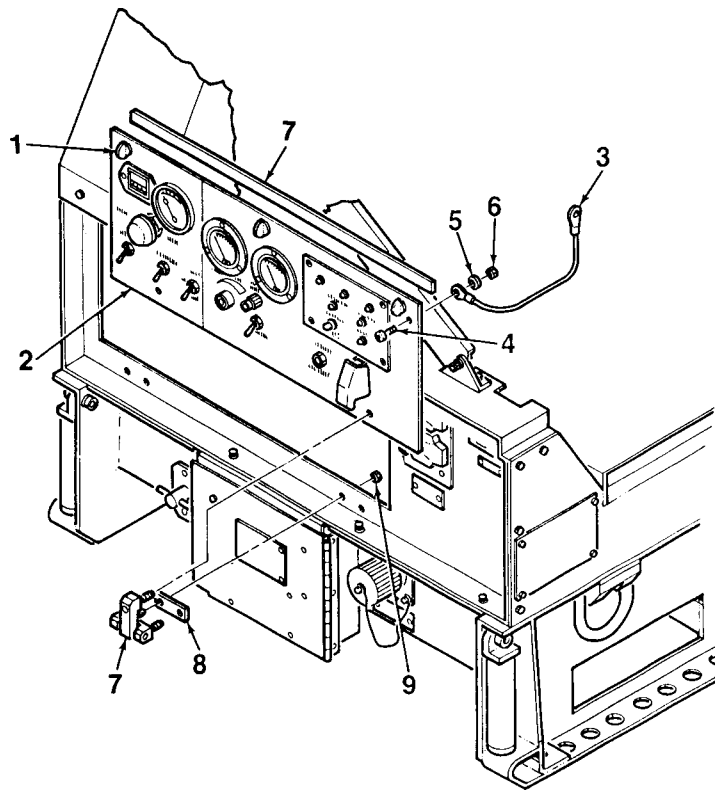

Figure 4-4. Control Panel Assembly
1. Turn quarter-turn fasteners (1, Figure 4-4) to unlock and open control panel (2).
3. Release cable lanyard (3) from control panel (1) by removing attaching screw (4), washer (5), and locknut (6).
4. Remove control panel hinges (7) and hinge spacers (8) from control box by removing four nuts (9).
5. Remove hinges from control panel (2) by removing two nuts (9).
4. Inspect control panel gaskets (7, Figure 4-4) for cuts, tears, permanent set, deterioration, or other damage. Ensure gasket is securely attached. Replace as required.
1. Attach two hinges (7, Figure 4-4) to control panel (2) using two nuts (9).
2. Install hinge spacers (8) onto hinges (7). Mate hinges to control box and secure using four nuts (9).
3. Connect cable lanyard (3) to control panel (2) using attaching screw (4), washer (5), and locknut (6).
5. Close control panel (2) and lock in place using quarter-turn fasteners (1).